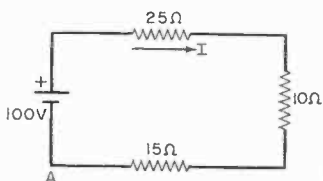

Fig. 6
C. Series Circuit. A series circuit is a network where the same current flows in each element. An example of a series circuit is shown in Fig. 6.
voltage across the 10-ohm resistor in the series circuit in Fig. 6. Sol. It is necessary to distinguish the direction of current flow and the polarity of voltage sources in the application of Kirchhoff's voltage law. The convention used here is: (1) A minus sign precedes a voltage quantity in going around a closed path from a low to a high potential or against the direction of indicated current flow.
(2) A plus sign precedes a voltage quantity in going around a closed path from a high to a low potential or with the direction of indicated current flow. (3) The assumed direction of current flow is arbitrary. (a) Referring to Fig. 6, assume that we start at point A and go around the closed path clockwise (with the direction of indicated current flow). Then, according to the voltage law and the conventions we have adopted, $-100 + (25 + 10 + 15)I = 0$ or $I = 100/50 = 2$ A. (b) From Ohm's law, the voltage across the resistor is $V = IR = 2(10) = 20$ V.